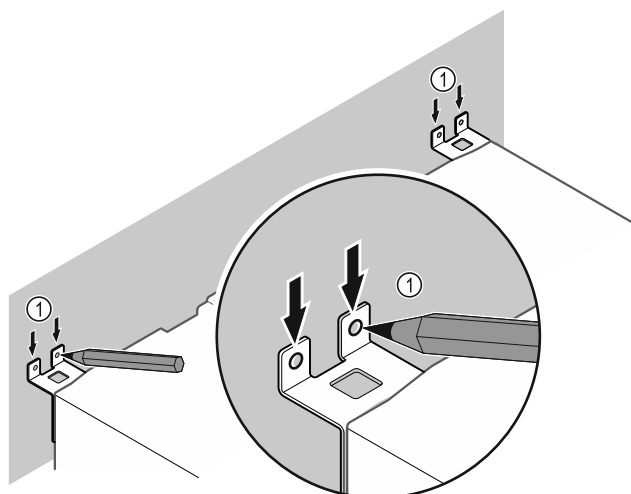

Fig. 67
- Make markings on the wall Fig. 67 (1).